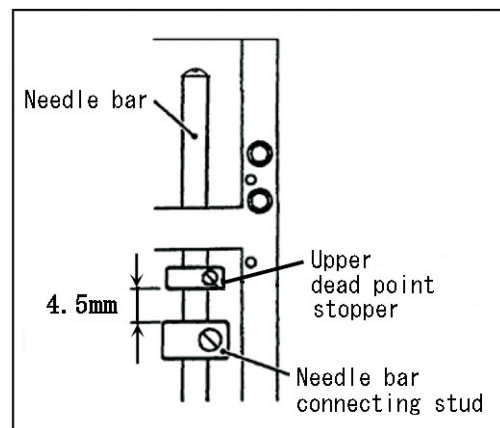

Fig.2
2. Loosen the needle bar connecting stud set screw.(Fig. 2)
- ? If needle replacement is not possible, adjust the distance between the upper dead point stopper lower end and the needle bar connecting stud upper end to 4.5 mm.(Fig. 2)